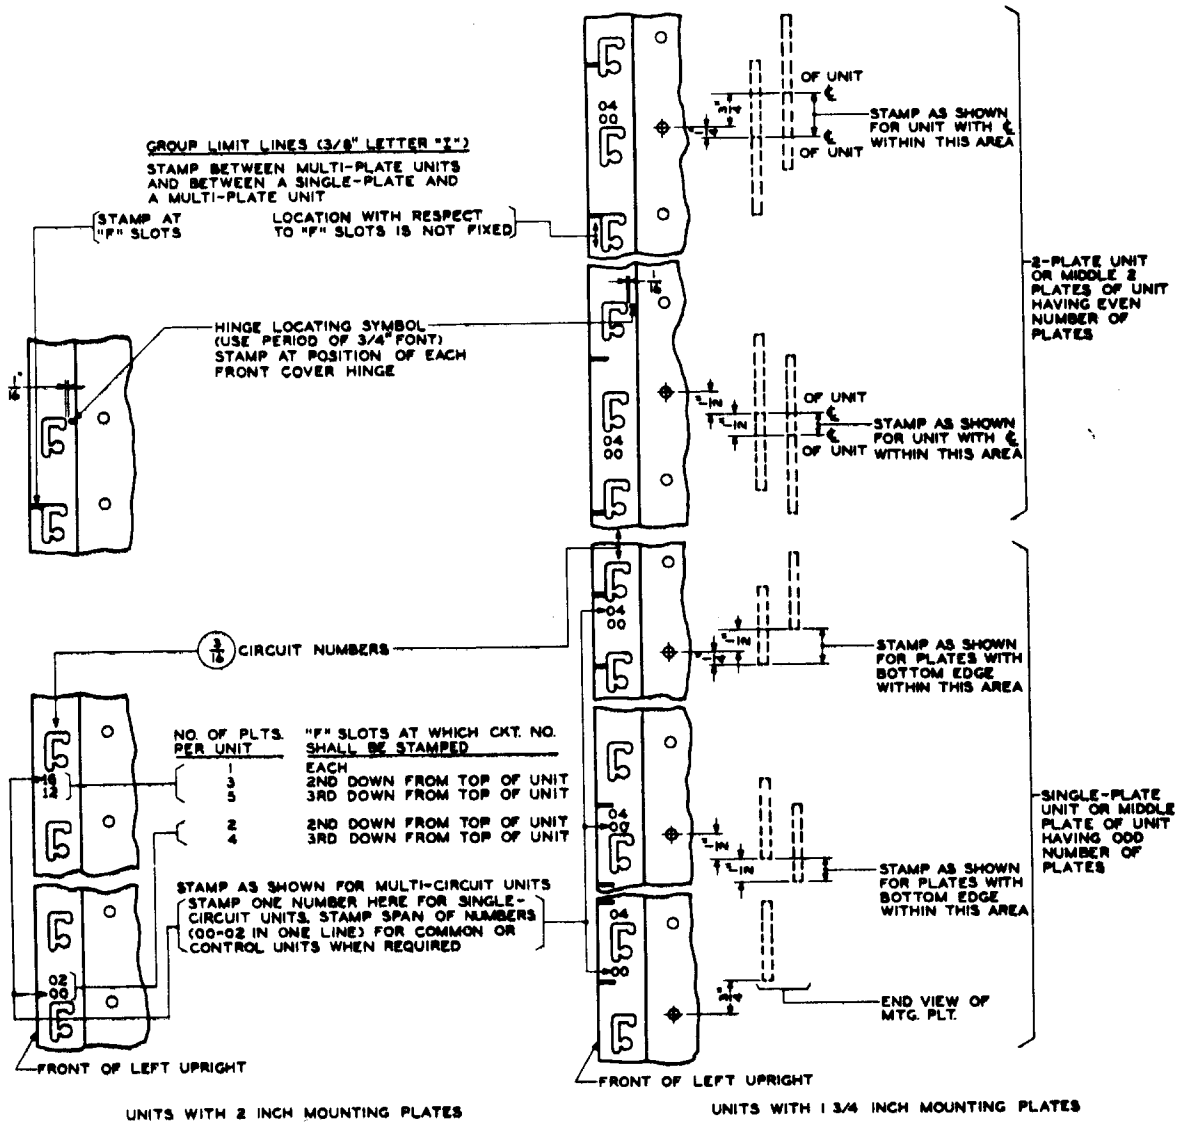

Fig. 20 - Frame Uprights on Box-type Frames - Circuit Numbers
- (a) *On the front*, stamp on inside face of the left upright opposite each unit to which they apply. For a span of numbers, the numbers shall be stamped one above the other with the higher on top when they are bay circuit numbers and in the same line for common or control equipment when the numbers apply to associated equipment. (See Fig. 20.)